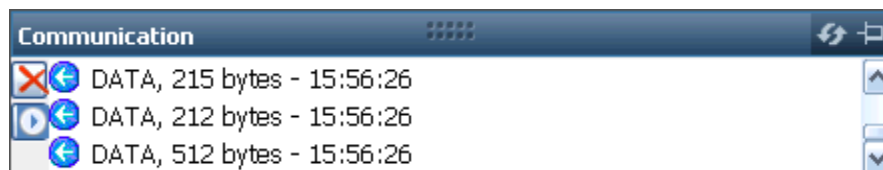

Figure 32: Communication Window – Connection at Incorrect Baud Rate
- *COM Port Connection*: Scrolling lines designated as “DATA” indicate a connection is established, but the receiver’s baud rate is not correct (see Figure 32). Open the *Port Configuration* dialog box. Click  to connect.